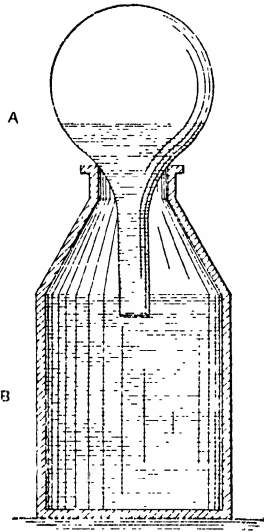

Fig. 56.—Water Barometer.
**Water Barometer.**—An apparatus giving rough indications of the weather can be made with a Florence flask A (Fig. 56) and a jar B. Fill the jar with water, and half fill the flask. Invert the flask and insert it into the jar as illustrated. Then tilt